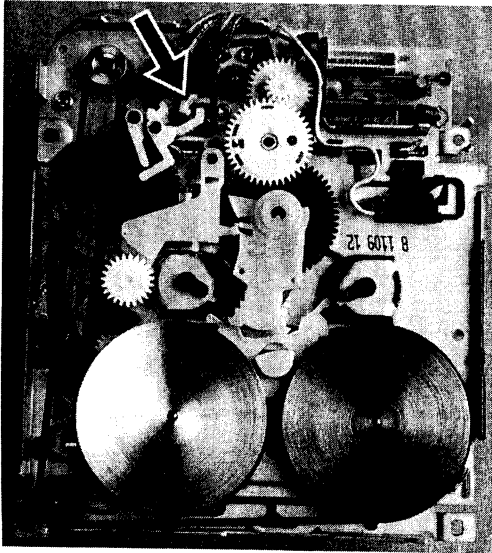

Figure 1
The transport disc (pos. 33) must be in the position, shown in fig. 1.
Before disassembling the tape deck, take care that the cassette holder pos. 51/52 is in the **eject** position. See figures 1 and 11.